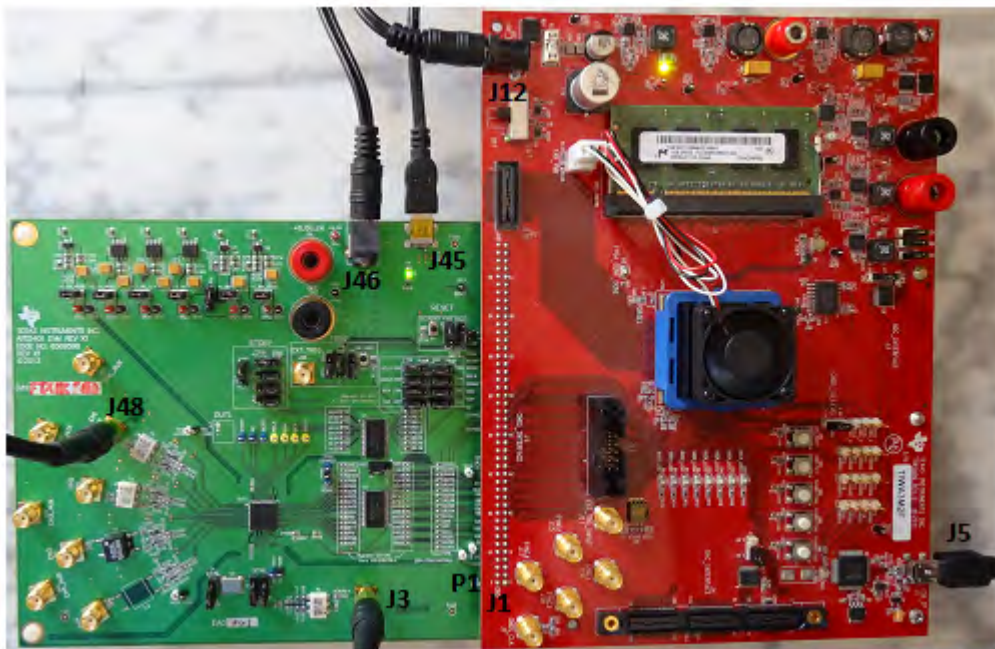

Figure 19. TSW1400 and AFE5401-Q1 Setup
Figure 19 shows the connections for proper hardware setup (*Note: Testing the parallel CMOS interface between the AFE5401-Q1 EVM and the TSW1400 EVM can be performed using a RAMP function generated within the AFE5401-Q1 device in lieu of the signal source listed in item 7. Also, an on-board 25-MHz crystal oscillator (XTAL) can provide the ADC sampling clock in lieu of the signal source listed in item 6. This configuration is only recommended for testing the RAMP function as low phase noise filtered signal sources must be provided to both the ADC clock input and the ADC analog inputs for measuring device performance*).
With the setup outlined in Figure 19 established, launch the *High Speed Data Converter Pro* GUI. The GUI should automatically detect the serial number of the TSW1400 EVM connected as shown in Figure 21. Click on OK.